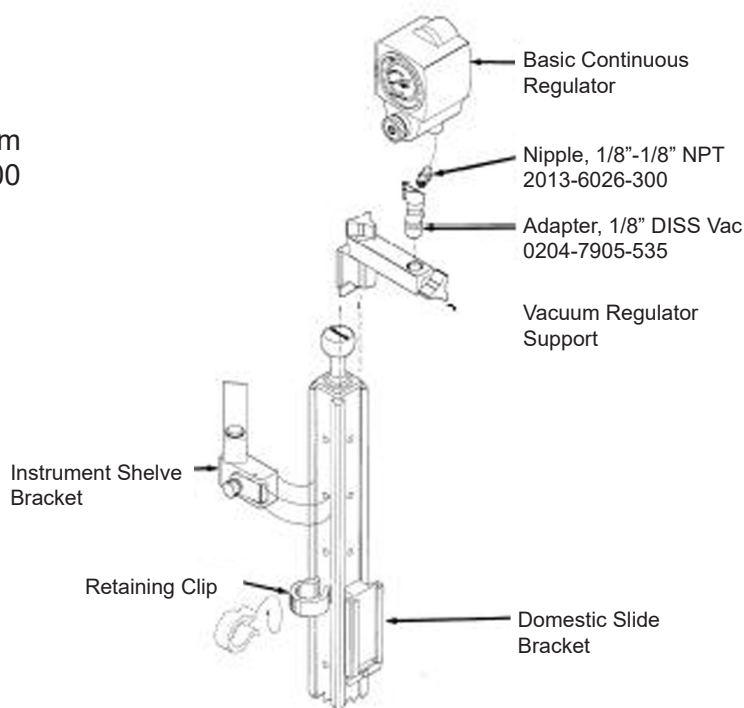

Figure 3
2. Attach the required accessory items to the stand. See Figure 3.